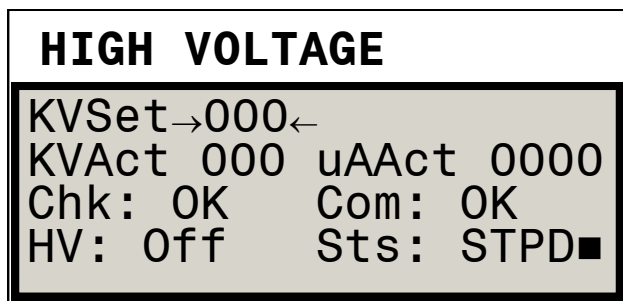

Figure 10: High Voltage Run Menu Screen
### (Figure 10 and 11)
The default High Voltage display is shown in Figure 10 below. Line 1 of the display shows the current high voltage setpoint (KVSet) in kilo volts. The arrows which enclose the value (000) indicate that it may be changed. Line 2 of the display shows the current high voltage reading (KVAct) and microAmp reading (uAAct) from the cascade. Line 3 of the display shows the status of cascade feedback (CHekK) and communications (COMmunications) as both being OK. Line 4 of the display shows that high voltage (HV) is Off and controller STatuS (Sts) is STPD (Stopped, i.e. not active). Note at the end of line 4, there is a ■ (block character). This indicates the active display, that is the one the menu control buttons will act on.
7. Press the Set Button to place the controller into RUN mode. The two display screens will now look like figures 10 and 11.